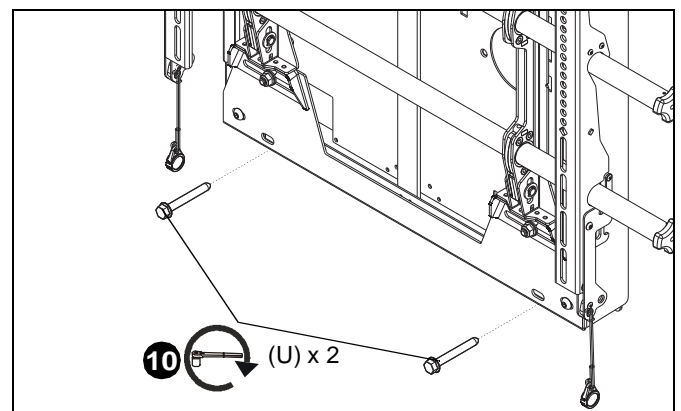

Figure 9
10. Hang wall mount back onto top bracket and install two 5/16 x 2 1/2" hex head cap screws (U) through lower mounting holes on mount and into concrete anchors. (See Figure 9)